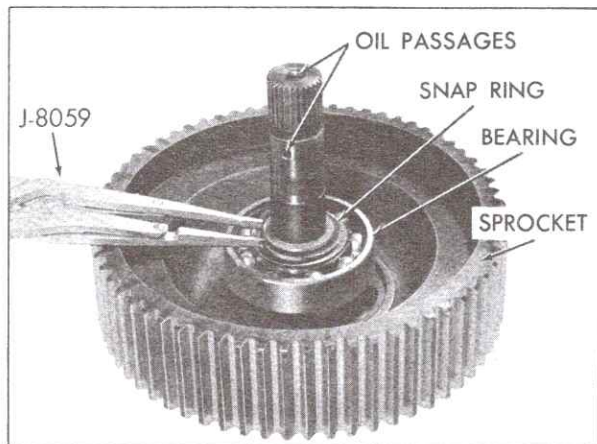

Fig. 7-150 Removing Sprocket Bearing Snap Ring
- a. Remove sprocket to bearing assembly retaining snap ring using Snap Ring Pliers, J-8059, Fig. 7-150.